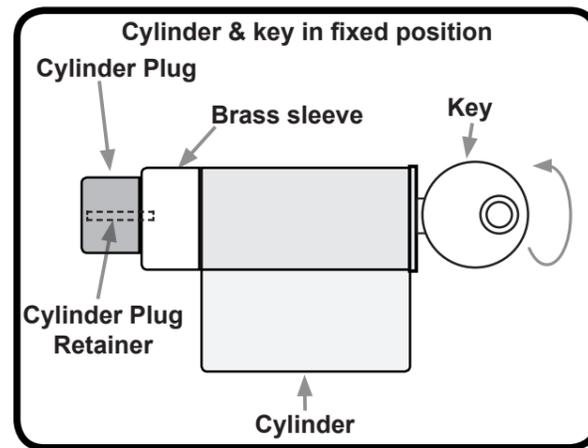
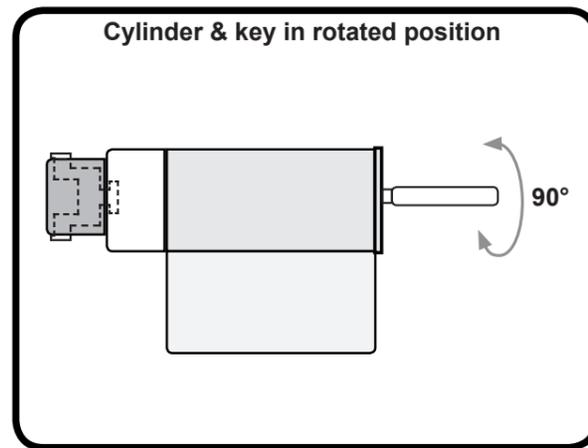

Fig.17
Fig.18
3. Put one of the correct keys (**Part No.18**) into the cylinder, rotate 90° clockwise/anti-clockwise and pull the key. This will allow the keys, cylinder, cylinder plug and retainer to come out as one as per **Fig.17**.
6. Put one of the correct keys into the new cylinder, rotate 90° clockwise/anti-clockwise and push back into the hole in the knob handle holder as per **Fig.18**. When in position rotate the key back to the fixed position (**Fig.17**) and remove the keys and the cylinder should now be held into the knob handle holder.